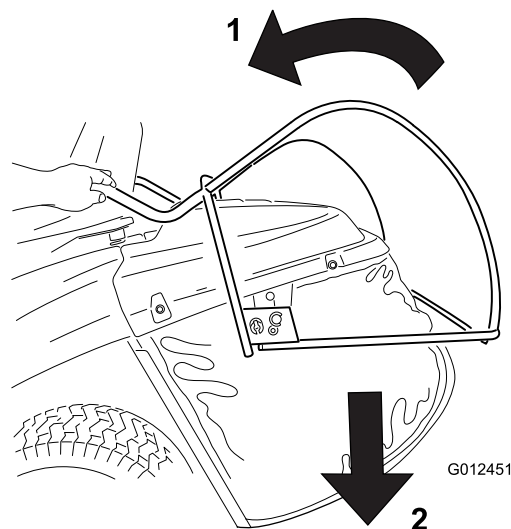

Figure 17
3. Pull the grass collector dump lever forward to tilt the grass collector (Figure 17).